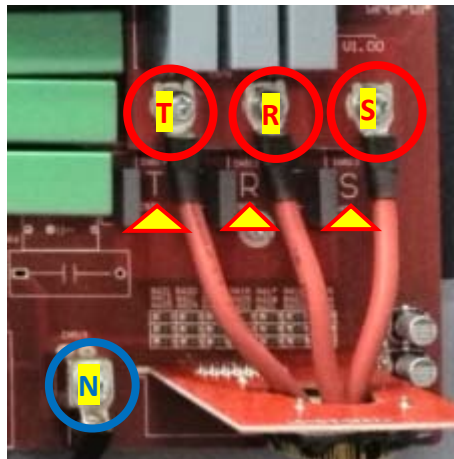

Fig.4.5.4
- If the AC terminal belongs to type 1 or type 2 as Fig.4.3.1 show, please measure the corresponding phase voltage (R, S, T 3 phase) inside inverter as Fig.4.5.4.